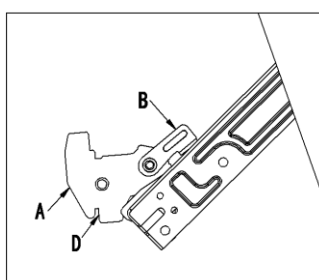

Fig.11-1
- ⊞ Open the door completely and lift the 2 levers “B” (fig.11-1);